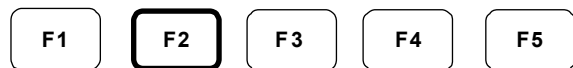

Figure 14-19. Glue-Pattern-Edit Menu
3. Press F2 (Yes) to answer yes to the “Name OK?” message. The glue-pattern-edit menu displays (Figure 14-19).